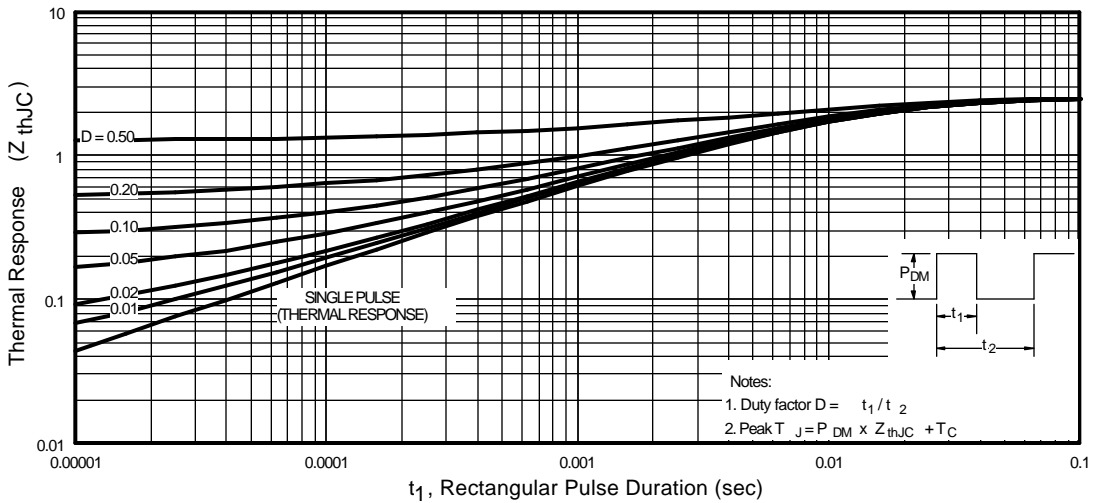

Fig 11. Maximum Effective Transient Thermal Impedance, Junction-to-Case
① Repetitive rating; pulse width limited by max. junction temperature. (See fig. 11)
② Starting $T_J = 25^\circ\text{C}$, $L = 27\text{mH}$